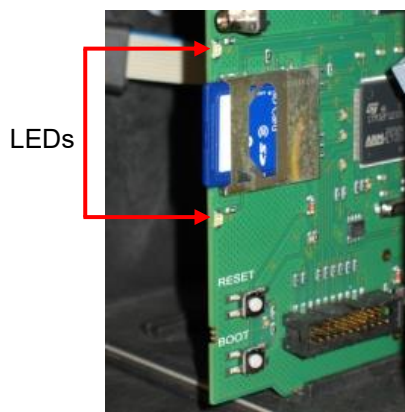

Figure 31
8. The Testomat restarts and implements the update. In this mode, although no text is output, the status is indicated via the LEDs of the SD card (see figure 31) as well as those on the control card (see figure 33 on page 68). The programming progress is indicated as bars with five LEDs on the control card: Initially, only LED1 flashes (in the vicinity of the plug connector to the motherboard) slowly (once every two seconds) and later permanently, whereupon the next LED begins flashing. The process is repeated until all LEDs light up permanently. The firmware update is now complete. The Testomat is started automatically with the new operating software. The complete firmware update takes around 70 seconds.